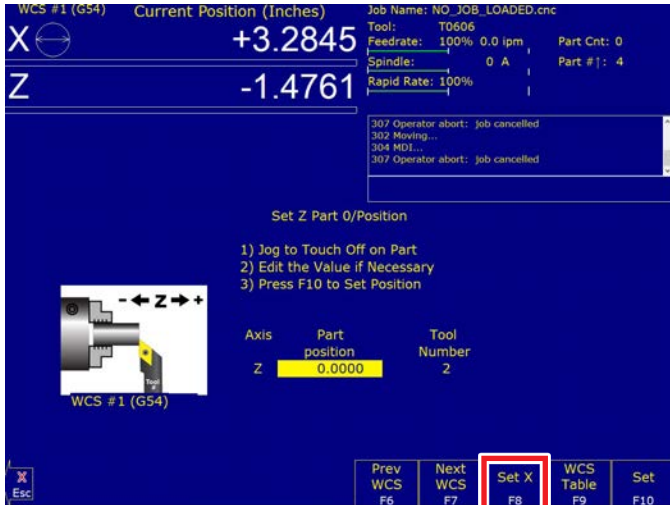

FIGURE 47
F. Once the Z is set we will now set the X Zero. Click on “Set X F8” (see Figure 47).